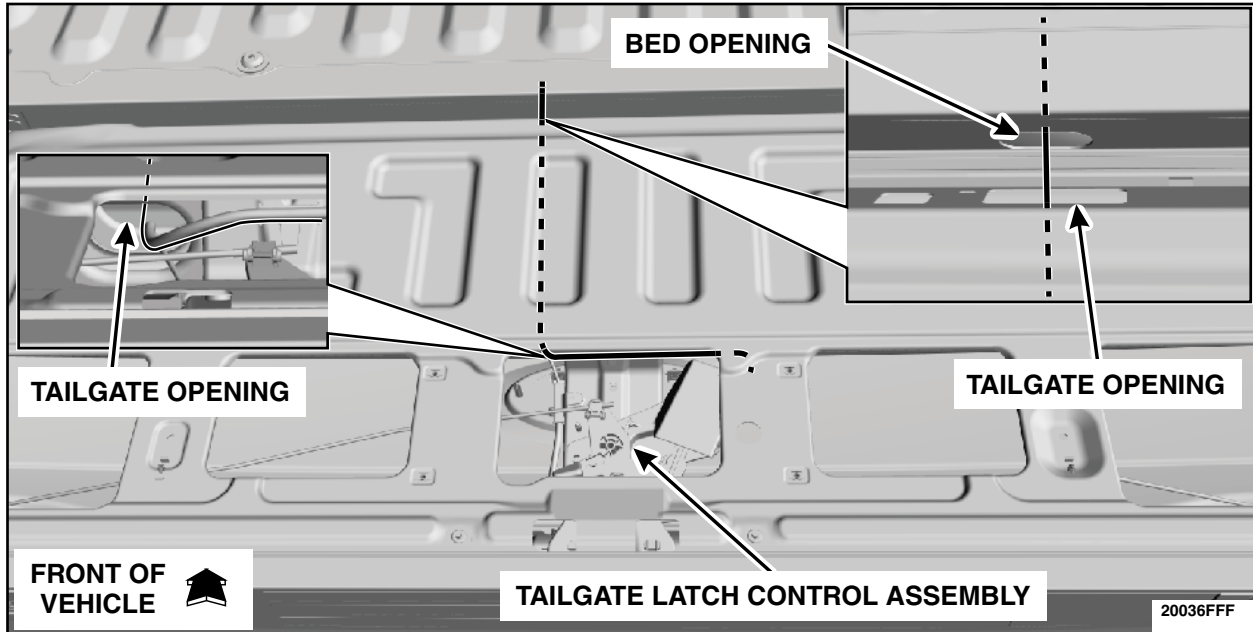

FIGURE 60
80. Using a straightened coat hanger, tape the sealed terminal end of the Tailgate Jumper Harness Wire to one end of the coat hanger. Route the wire and coat hanger on the LH side of the tailgate latch control assembly and through the opening in the center bottom of the tailgate. Continue to pass through the opening in the bed and down through the bottom of the vehicle. See Figure 60.